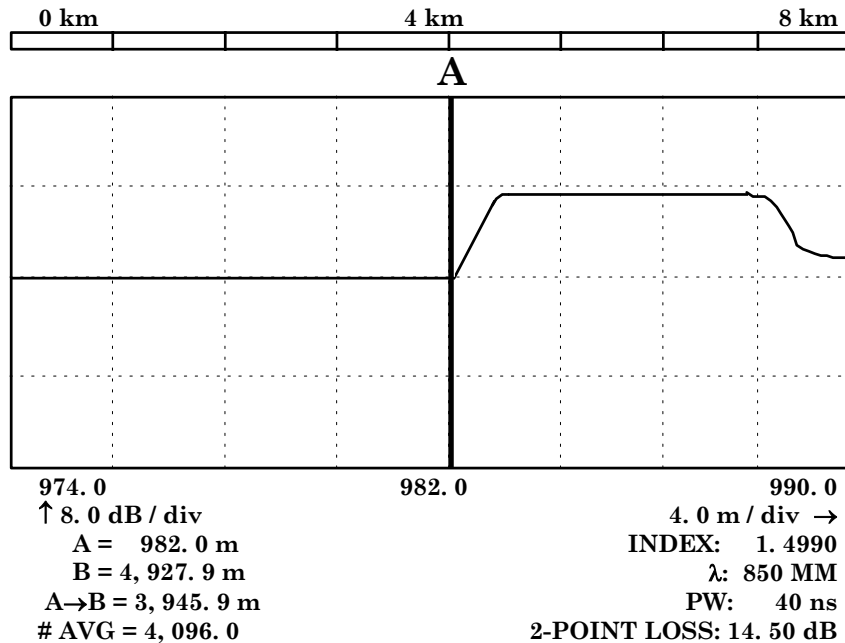

Figure 20. Placement of cursor A to get reference position (TD-260C).
- (6) Press **DISPLAY FROM** pushbutton as required to select **A**.
- (7) Press **HOR EXP** pushbutton as required to display **4.0 m/div** on crt.
- (8) Adjust **CURSOR A** control to carefully adjust cursor A to beginning of reflective event as shown in figure 20.